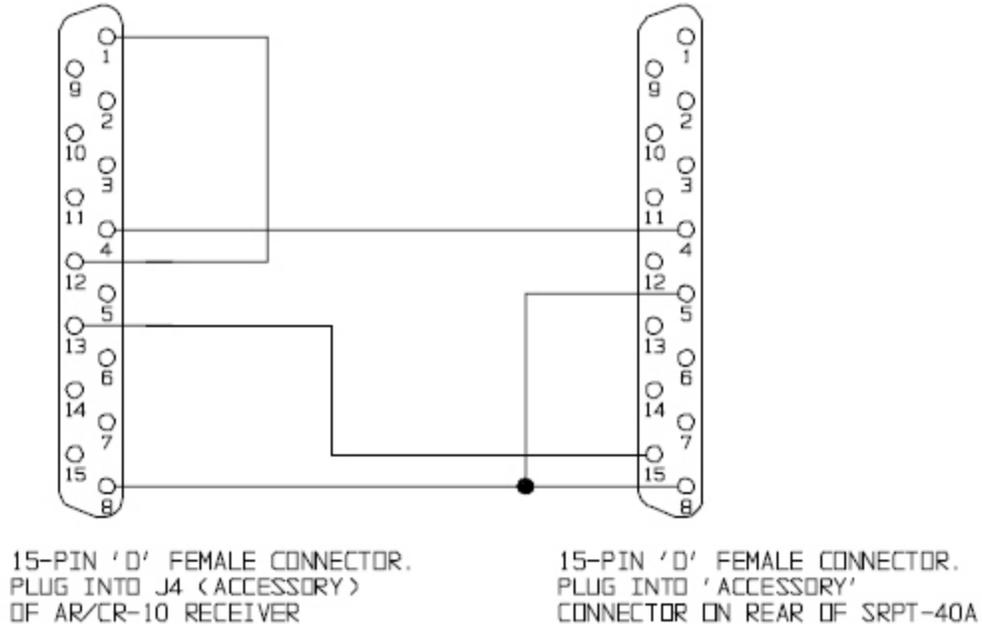

Figure 2-4. Fixed Repeat Cable.
4. For fixed automatic repeater operation, connect Cable No. 585-143 (Figure 2-4) between accessory connectors of the receiver and SRPT-30/40A transmitter. Connect receiving antenna to receiver J6 and transmit antenna to SRPT-30/40A ANTENNA connector.